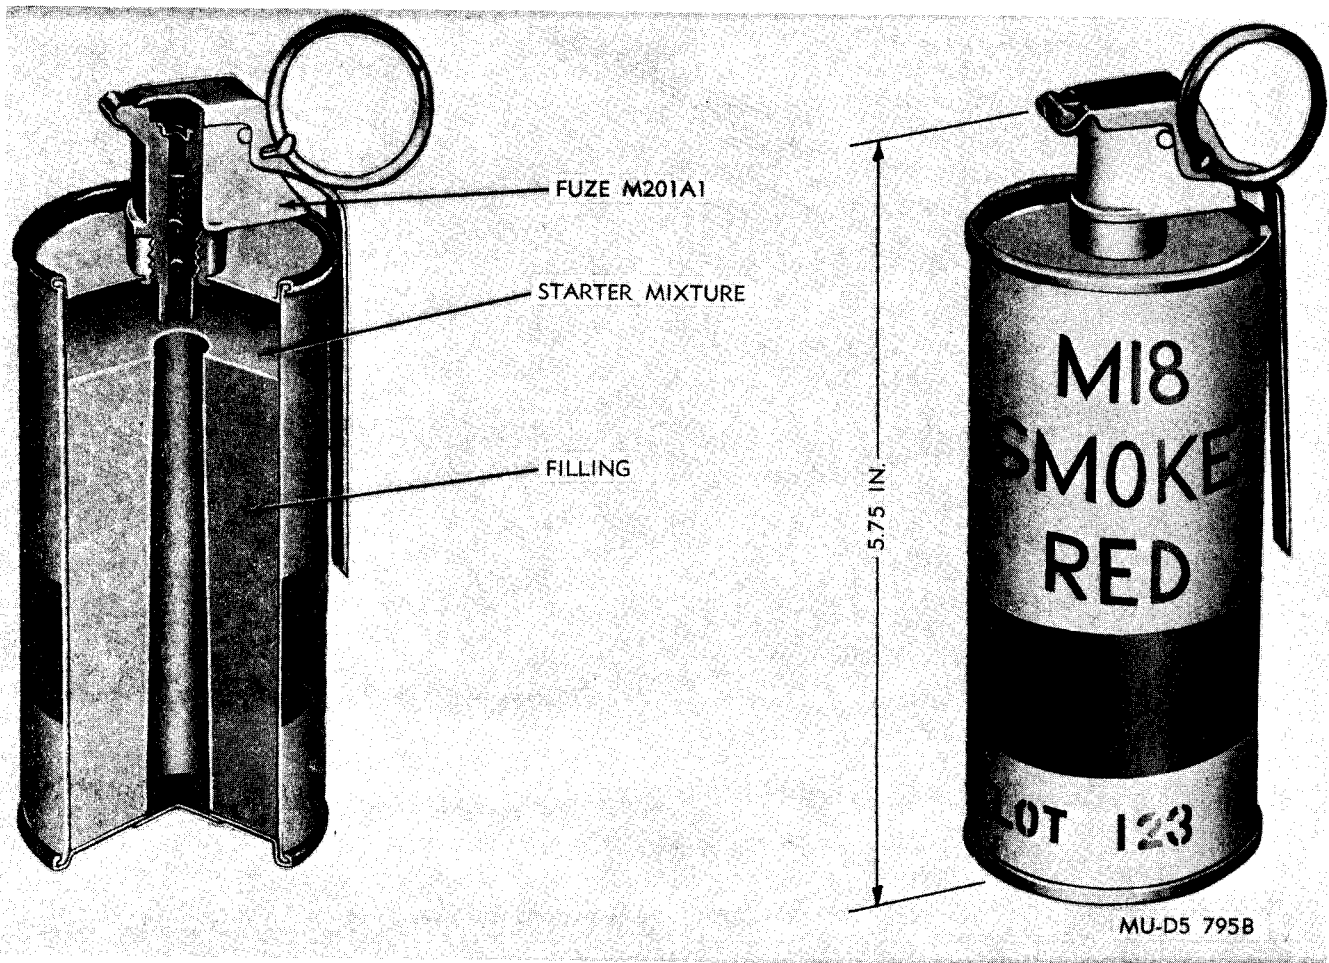

Figure 2-20. Colored smoke hand grenade M18.
a. *General.* Colored Smoke Hand Grenade M18 (fig. 2-20) is used for ground-to-air or ground-to ground signaling. Grenades may be filled with any one of four smoke colors: red, green, yellow or violet. Each grenade will emit smoke for 50 to 90 seconds.